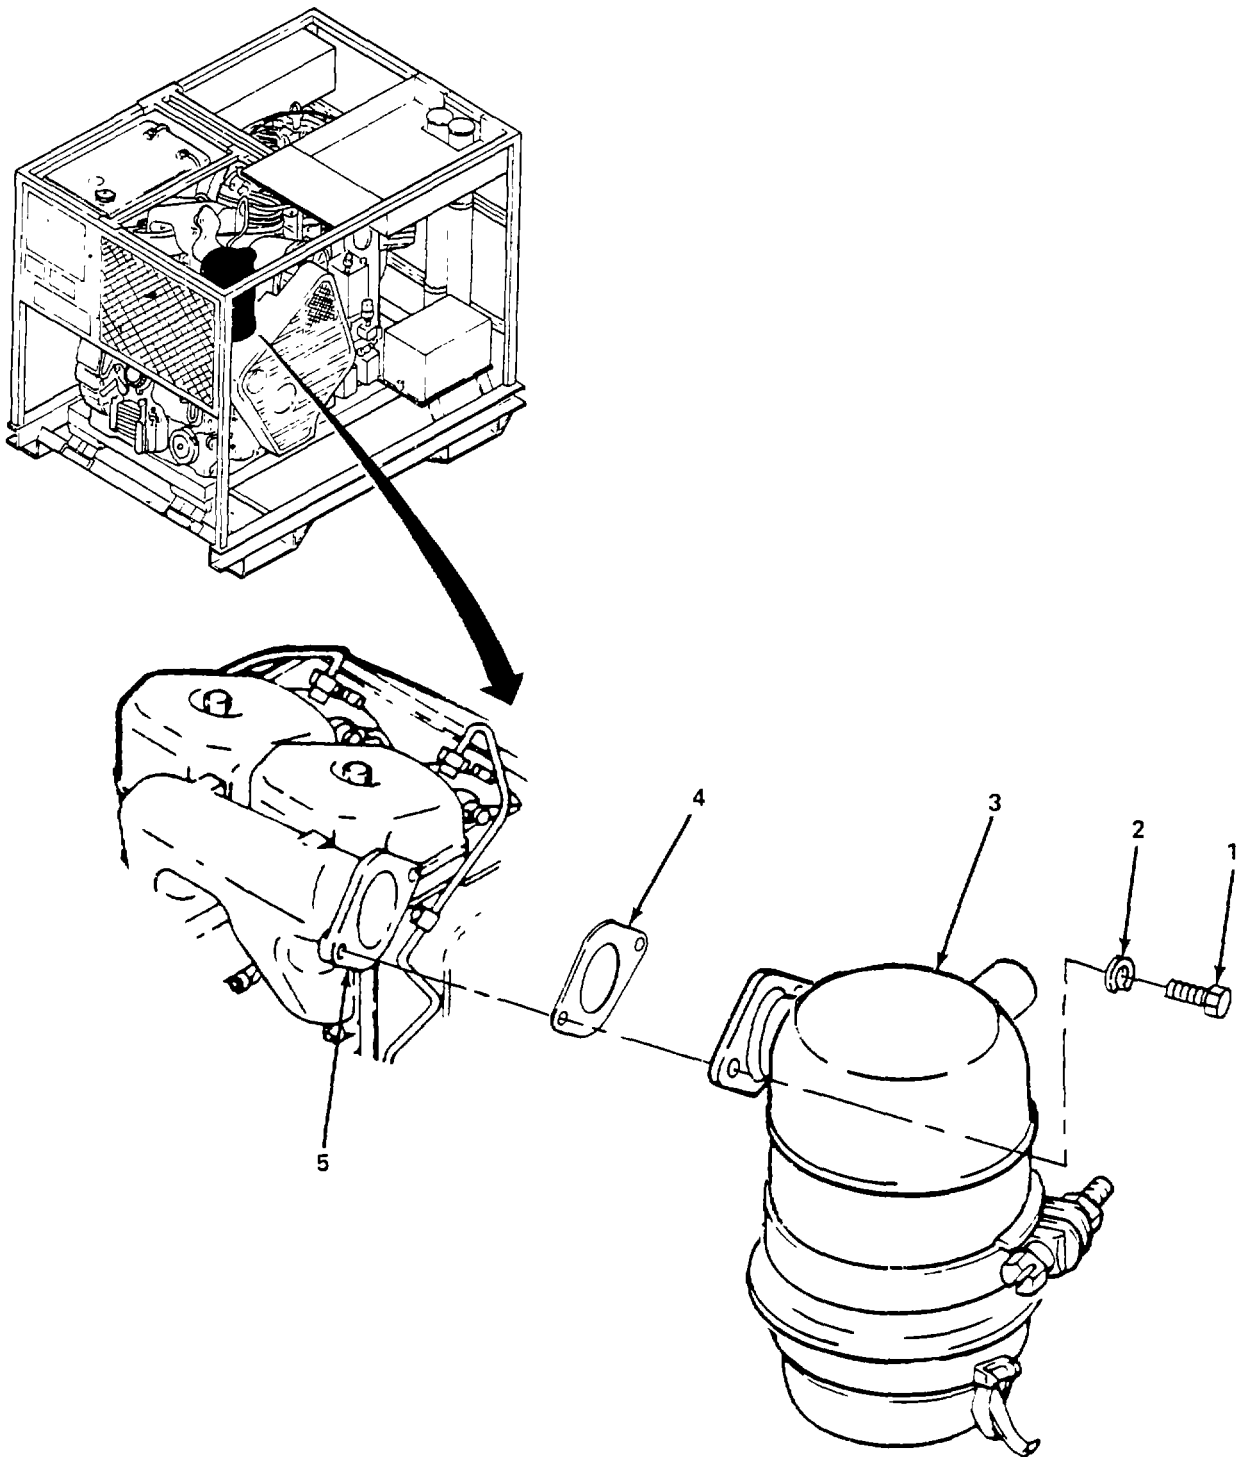

Figure 4-46. Oil Bath Air Filter Assembly, Replace.
b. Replace. (figure 4-46)
- (1) Remove two bolts (1), lockwashers (2), and remove oil bath air filter assembly (3) and gasket (4) from air intake manifold (5).
- (2) Install gasket (4), oil bath air filter assembly (3) on air intake manifold (5) and secure with two lockwashers (2) and bolts (1).